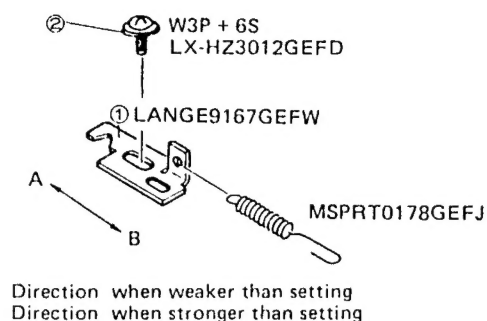

Figure 15.
- 1) Shift the tension arm spring angle (1) toward arrow (A) in figure 15 and tighten it with screw (2) (LX-HZ3012GEFD), when tape tension is less than the set value (50g to 57g. cm).
- 2) Shift the tension arm spring angle (1) toward arrow (B) in figure 15 and tighten it with screw (2) (LX-HZ3012GEFD), when tape tension is stronger than the set value (50g to 57g. cm).